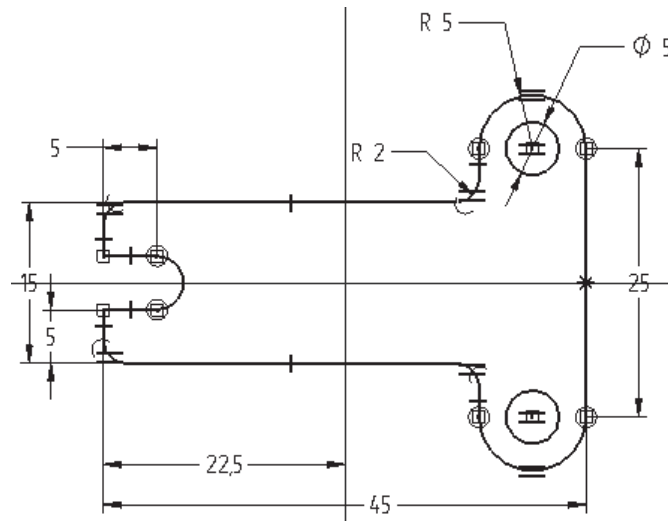

Figure 5-48 Dimensioned profile for the base feature
3. Add the required relationships and dimensions to the sketch, as shown in Figure 5-48.